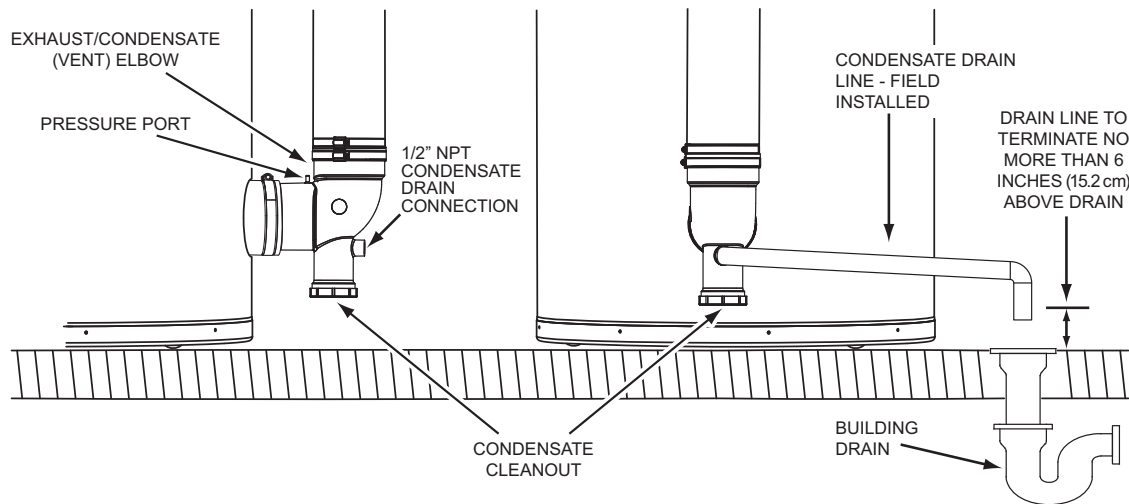

Figure 32. Condensate Drain Installation
2. Install a 1/2 inch PVC condensate drain line between condensate drain connection on the Exhaust/Condensate Elbow and a suitable building drain. The condensate line must slope to an open drain, see Figure 32.
3. Terminate the condensate drain piping with an elbow above the drain. Ensure that any discharge will exit the condensate drain line no more than 6 inches (15.2 cm) above a suitable building drain, or external to the building, see Figure 32.
4. Ensure the condensate drain line is not elevated above the condensate drain connection on the Exhaust/Condensate Elbow, see Figure 32.